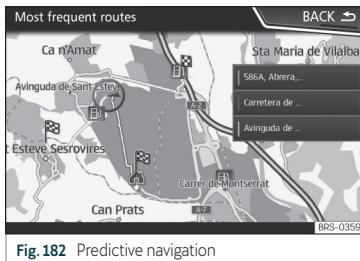

Fig. 182 Predictive navigation
- On the main screen of the Navigation menu, in the pop-up window, press the **Frequent routes** button. To display frequently followed routes press the **Show on map** button >>> Fig. 182.